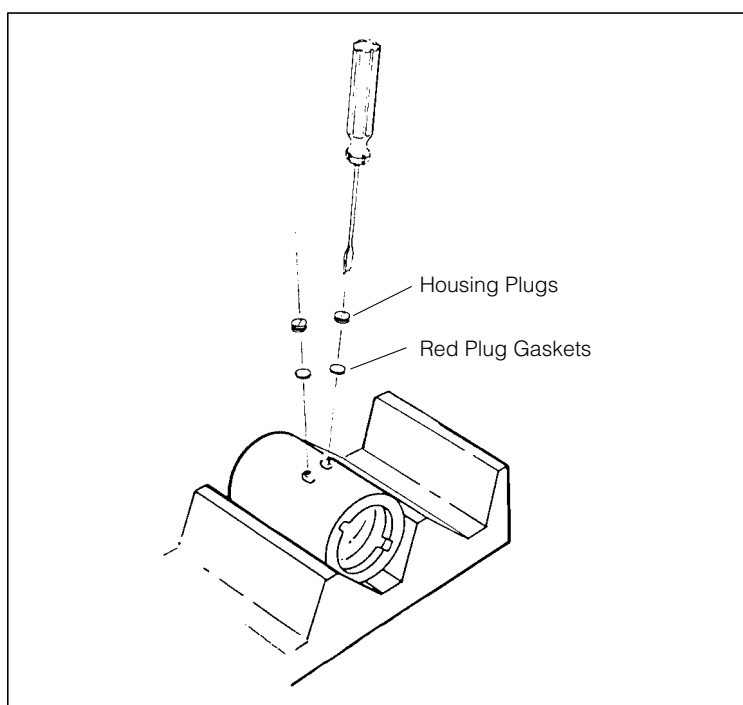

Figure 2-8. Sealing the Filling Holes
- Place a new red polyethylene plug gasket on each filling hole (see Figure 2-8).